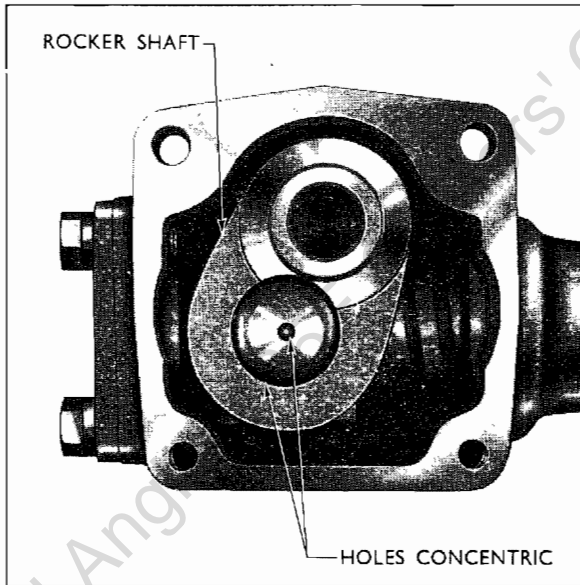

Fig. 8
2. With the cover plate removed, turn the steering on either lock until the hole in the end of the rocker shaft and the hole in the mating cone on the nut are concentric (see Fig. 8). **The steering gear must always be in this position when checking the rocker shaft end-float,** and to check this position, fit the indicator dial gauge as detailed in operation 4 below. Rotate the steering shaft in either direction until a minimum reading is obtained on the dial.